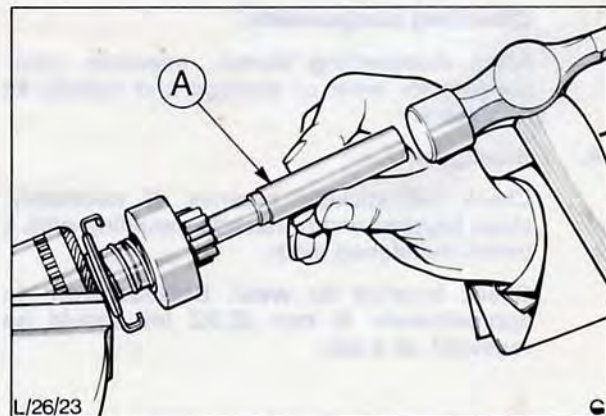

Fig. 40. Slide thrust collar down armature shaft using a suitably dimensioned tube, 'A'
8. To remove drive pinion assembly from armature shaft, use a suitably dimensioned tube to separate thrust collar from 'C' clip, Fig. 40.